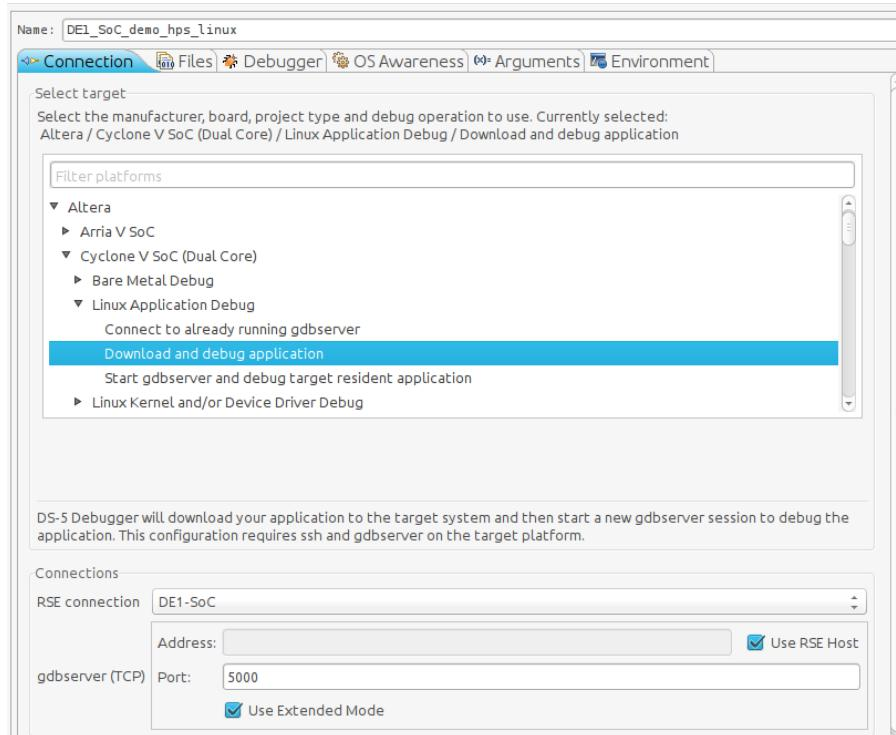

Figure 13-19. Debug Configuration "Connection" Tab
- b. Set the "RSE connection" to "DE0-Nano-SoC". This is the remote system connection we created earlier. You should have something similar to Figure 13-19.